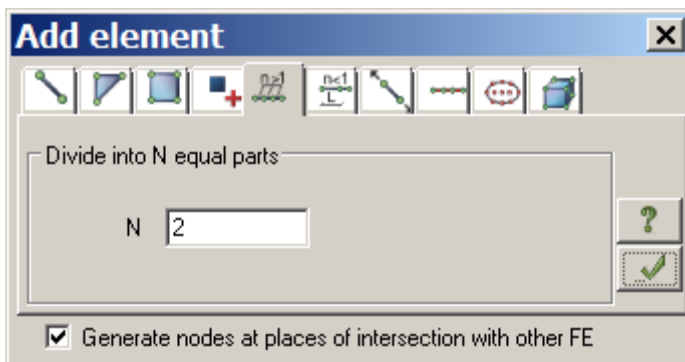

Figure 12.7 Add element dialog box
- ⇒ The **Add element** dialog box is presented with the **Divide into N equal parts** tab open (see Fig.12.7).